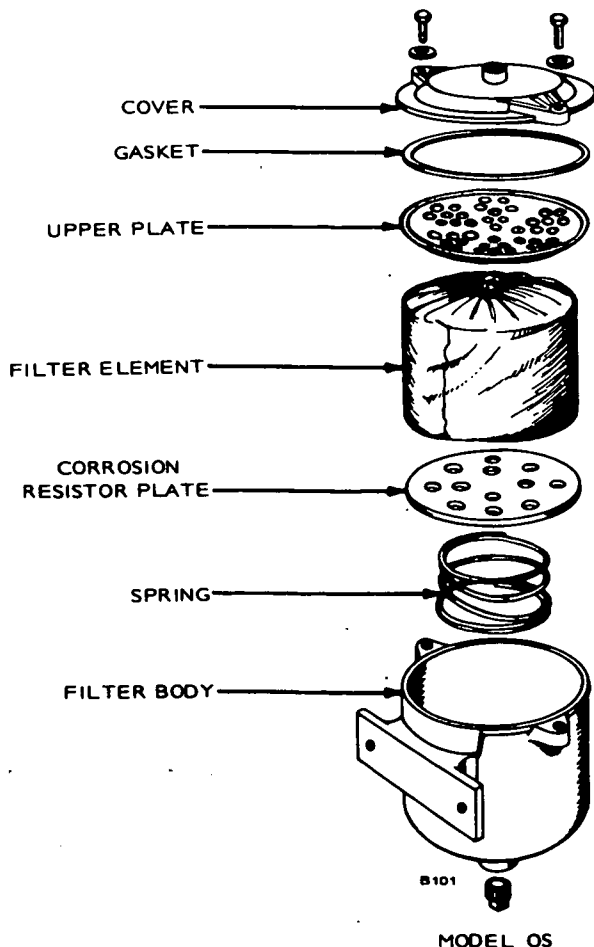

FIGURE 26. CHANGING CORROSION RESISTOR ELEMENT AND PLATE
4. Remove capscrews attaching filter cover to body and remove cover (Figure 26).